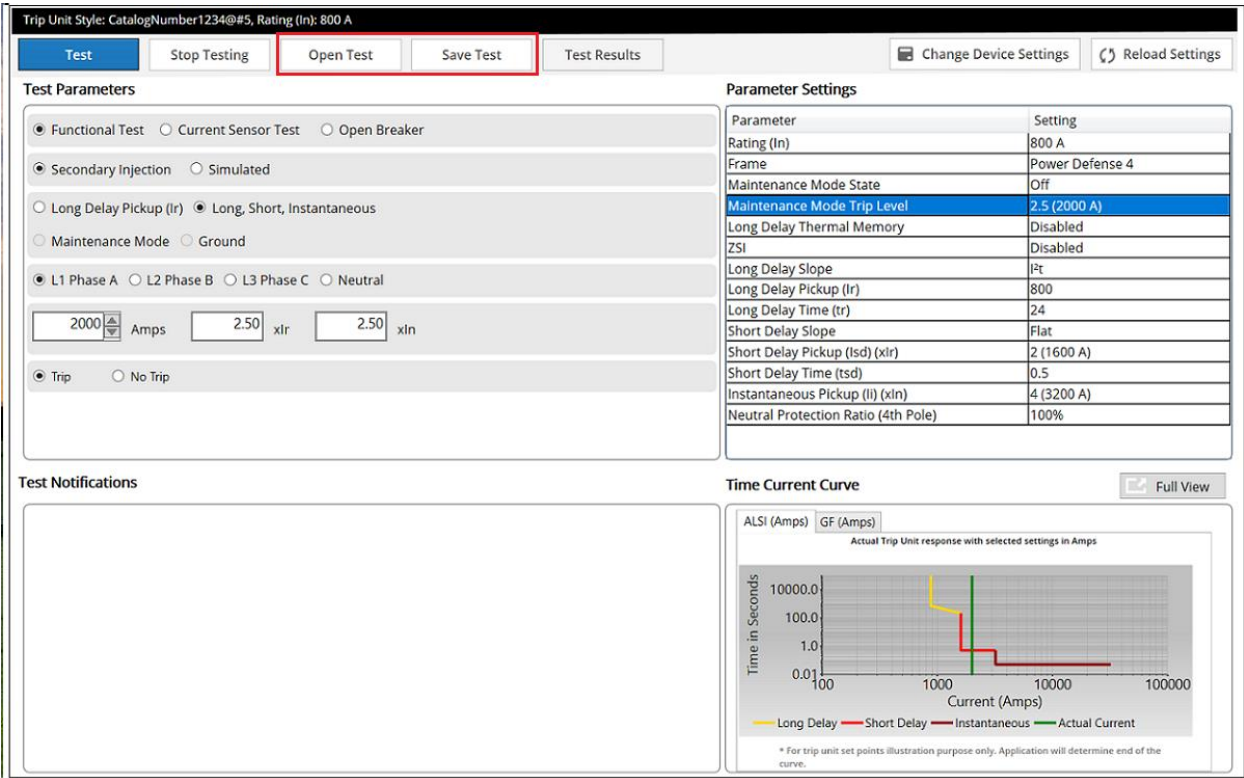

Figure 41: Open and save test buttons on Test Mode screen
- To open a previously saved test to perform (Figure 41: Open and save test buttons are highlighted in red on Test Mode screen)